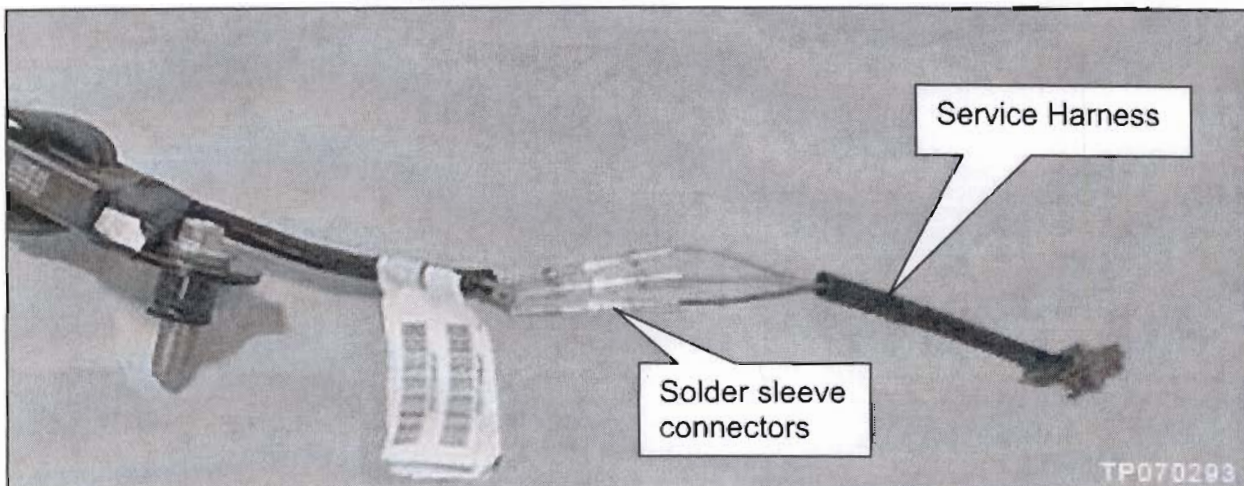

Figure 5
- Figure 5 shows a service harness connected with solder sleeve connectors.